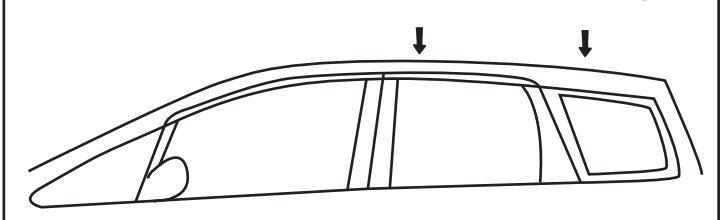

Fig. 4.
5. From the Inside Edge of the Trim, maneuver the Retaining Strap until it fits under the Anchor Point. Pull the Strap upward to reveal a gap above the anchor hook & the slot in the bottom Retaining Strap. Slide the top locking strap down the face of the bottom Retaining Strap, until it engages between the top of the anchor hook & the Retaining Strap. (Fig.4)